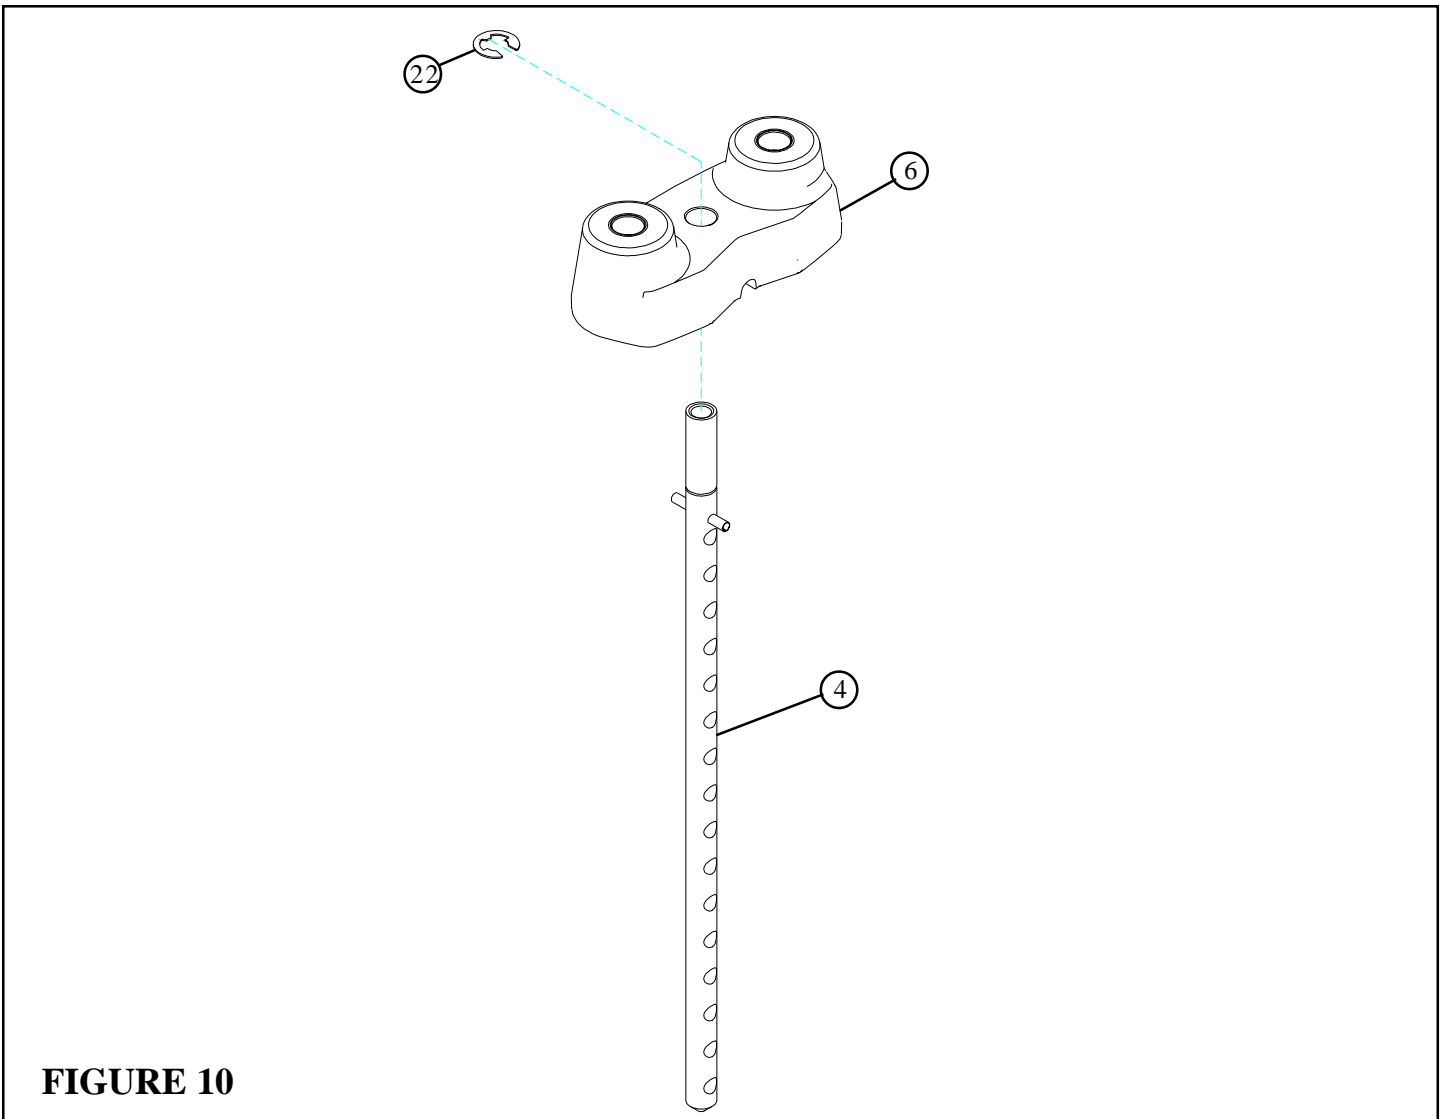

**FIGURE 9**
- Insert two WEIGHT PLATE BUSHINGS (21) into each of the fifteen WEIGHT PLATES (20) as shown in FIGURE 9.